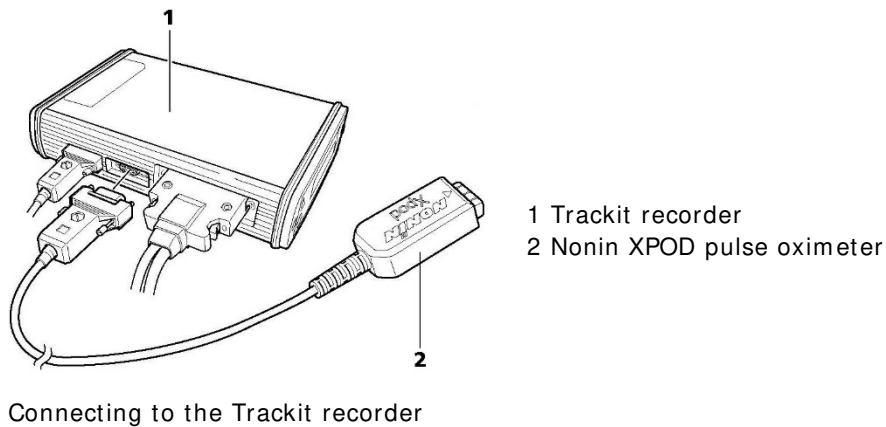

Figure 36 Connecting the oximeter to Trackit Mk3
- 1 Connect the pulse oximeter (see Figure 36) to the second 15-pin serial connector (AUX connector) on the side of the Trackit Mk3.